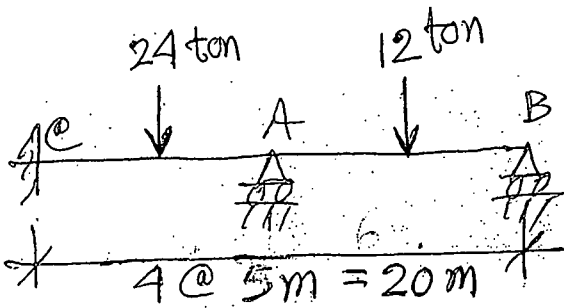

Fig. 15
8. (a) Find the reactions due to the loads and vertical downward settlements (in ton-m unit) of  $200/EI$  and  $100/EI$  at the supports A and B respectively of the beam in Fig. 15. (EI = constant). (27)